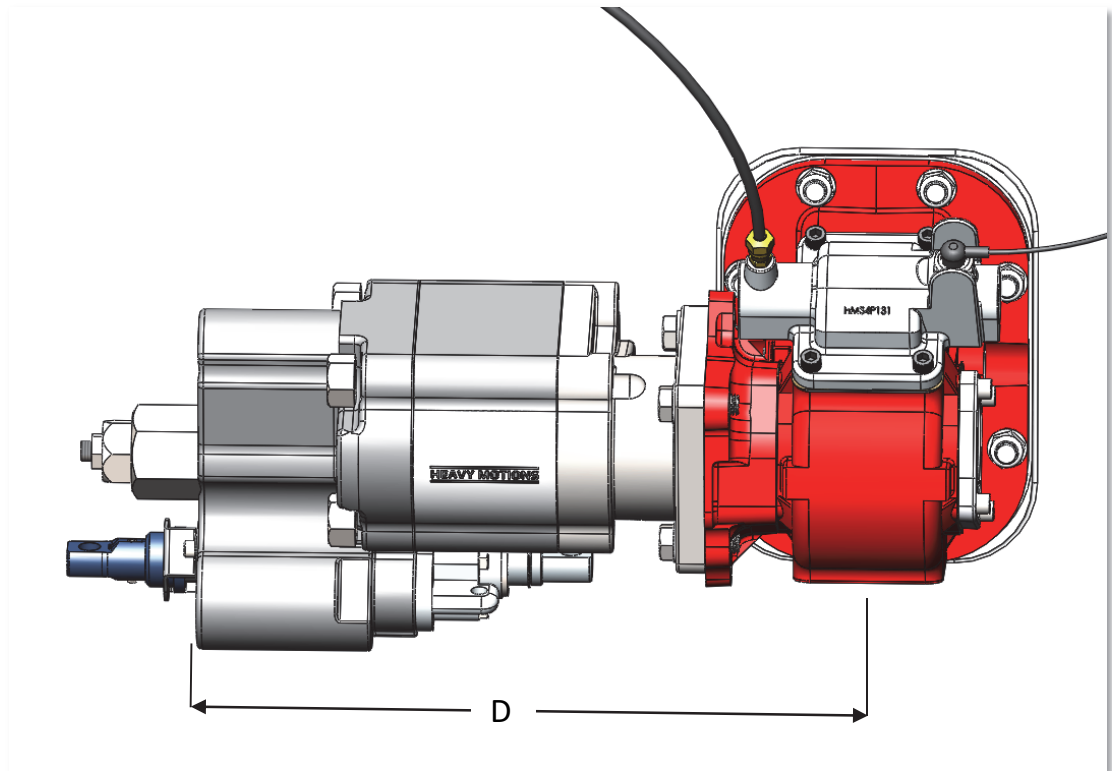

Fig. 18
6. The distance between the centerline of the PTO to the end of the pump is 18 inches (45 cm) or longer (Distance “D” Fig.18).